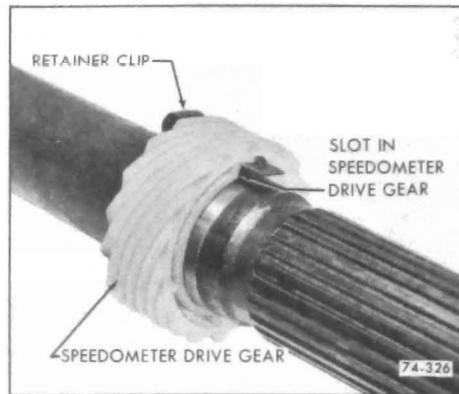

Figure 74-326
2. Align slot in speedometer drive gear with retainer clip and install. See Figure 74-326.